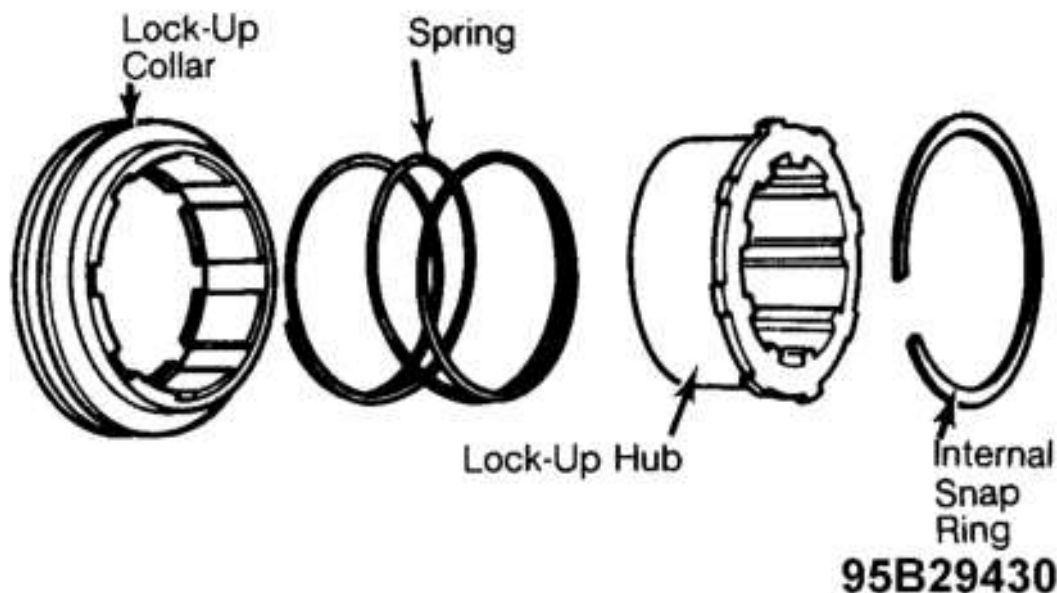

Fig. 19: Exploded View 2WD/4WD Lock-Up Assembly
20. If disassembled, assemble 2WD/4WD lock-up assembly. Install spring in lock-up collar. On electronic shift models, small end of spring in lock-up collar. On manual and electronic shift models, place lock-up hub over spring and engage lock-up hub in notches in lock-up collar. Install internal snap ring. See **Fig. 19** and **Fig. 21** through **Fig. 24** .